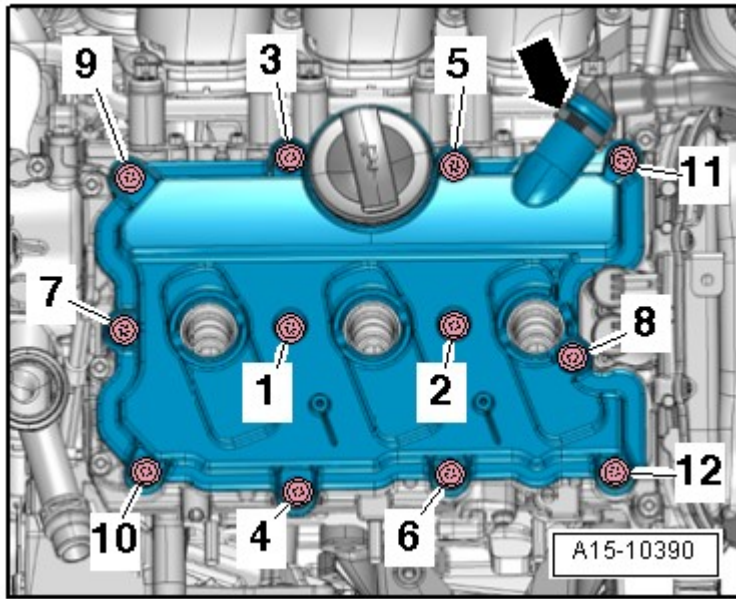
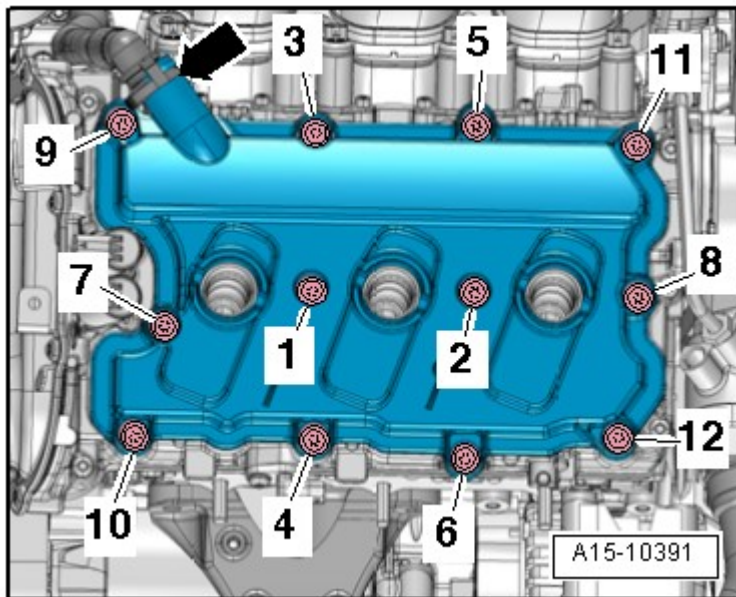

Fig. 12: Left Cylinder Head Cover Bolt Tightening Sequence & Specification
Fig. 13: Right Cylinder Head Cover Bolt Tightening Sequence & Specification
- Tightening specifications **Fig. 12** and **Fig. 13**.